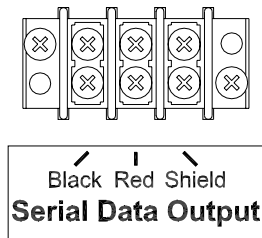

Figure 9 Serial Data Output Wiring Diagram
3. Connect the cable to the terminal block labeled **Serial Data Output** according to figure 9.